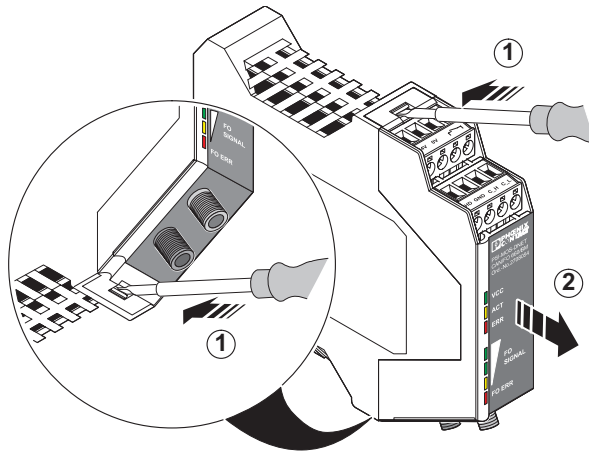

Figure 4 Opening the housing
- For configuration, release the housing cover using a screwdriver (A in Figure 4).
- Then carefully pull the PCB out of the housing as far as possible (B).